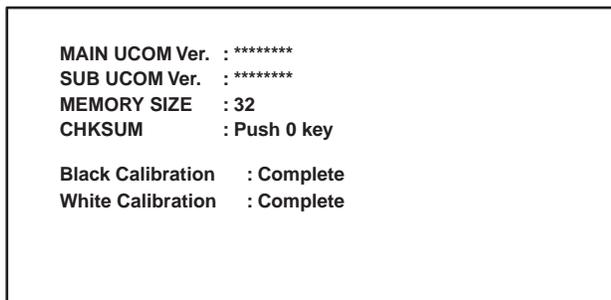

Fig. 4
2. Input black raster signal from only Component AV Input (2) video/Y jack (green). Do not input any signal to Component AV Input (2) video/Pb or Pr jack.
6. Input white raster signal (100% or 110%) from only Component AV Input (2) video/Y jack (green). Do not input any signal to Component AV Input (2) video/Pb or Pr jack.
11. Confirm that both the "Black Calibration : Complete" and "White Calibration : Complete" are displayed on the screen as shown in Fig. 4. If "Yet" is displayed instead of "Complete", repeat above steps.